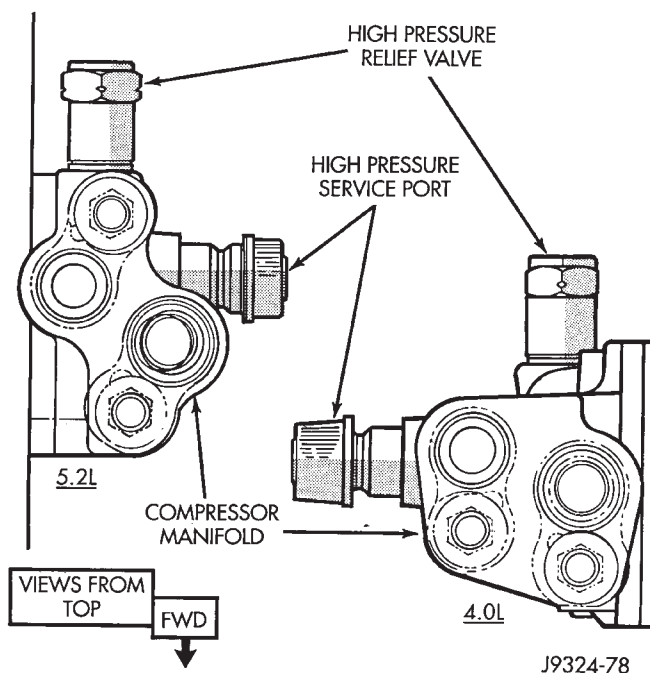

Fig. 6 High Pressure Relief Valve
- (1) Disconnect the negative cable from the battery.
- (2) Discharge the A/C refrigerant system into a recovery/recycle device (refer to Refrigerant Service Procedures).
- (3) Rotate the high pressure relief valve counter-clockwise and separate relief valve from the vehicle (Fig. 6).